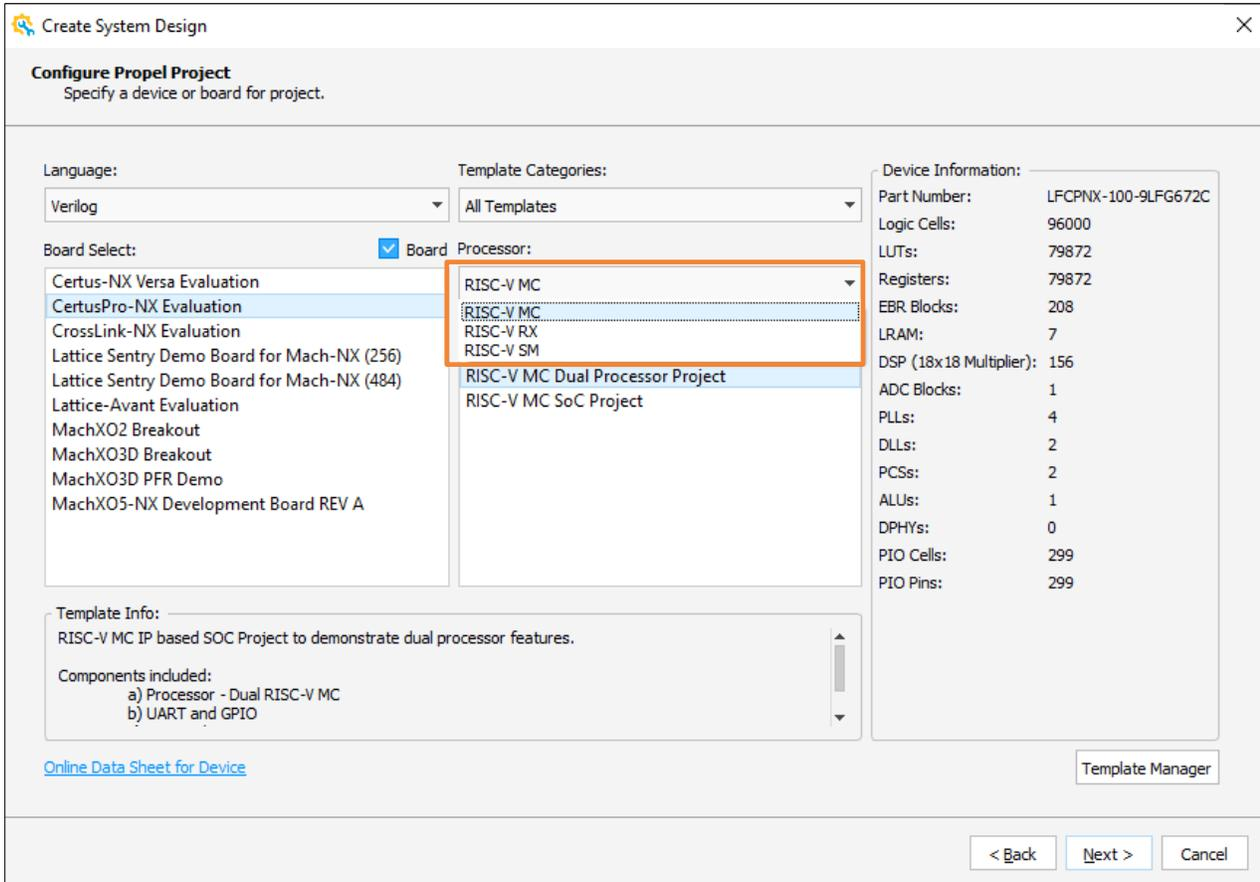

Figure 2.7. Specify a Board for Template SoC Project (3)
6. (Optional) About the Processor section (Figure 2.7):